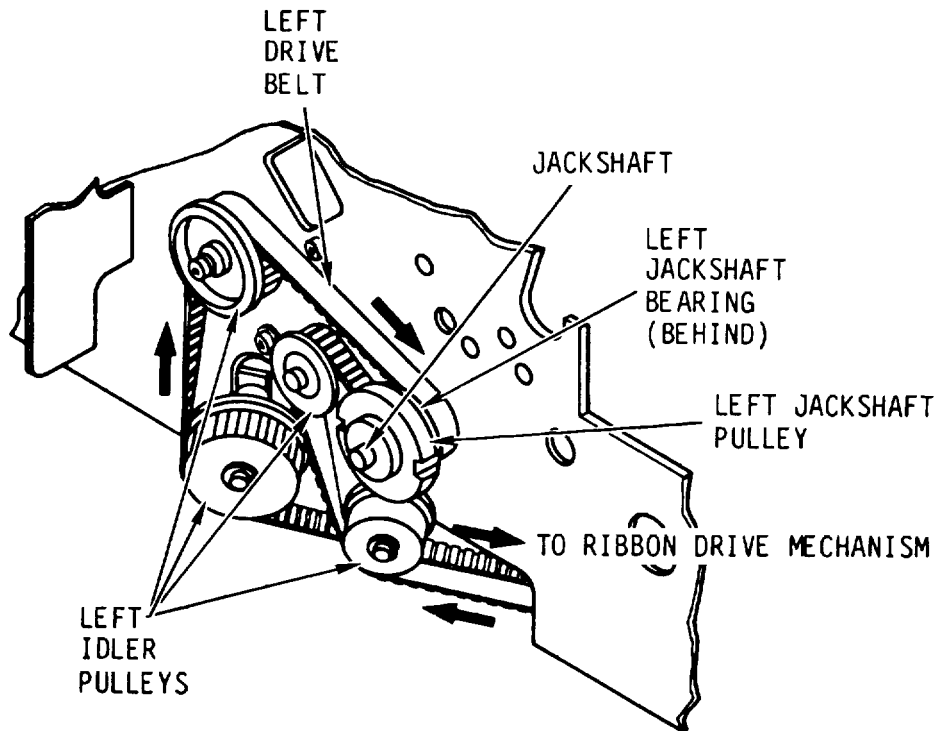

Figure 2-5. Left Drive Belt System
(1) The ac motor drives the print belt by means of the jackshaft and the left belt-drive system (fig. 2-5). The print belt travels counter-clockwise at a constant rate in front of the paper and platen. The inking ribbon passes between the type fingers and the paper. Printing takes place when a type finger is driven by a hammer against the ribbon and paper.